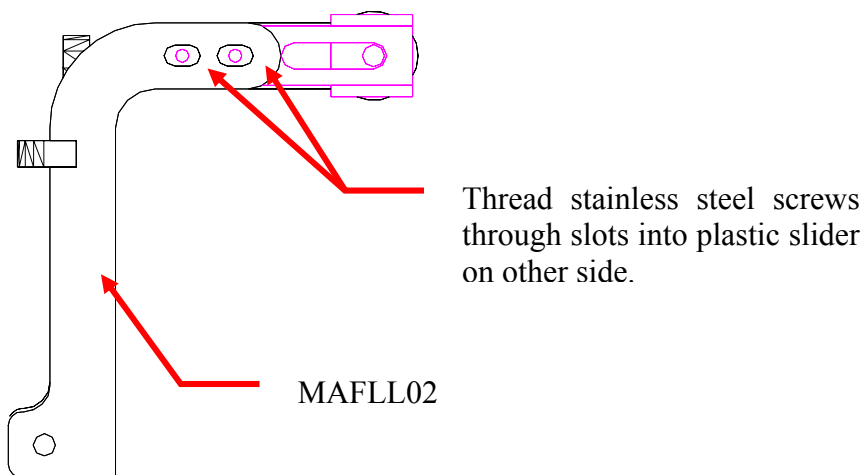

Figure 12. Attach the slider horn with the screws centered, or as right-most as possible in the slotted holes of the MAFLL02 (screws are not shown).
2. Attach the shoulder servo horn slider (sliding mechanism of the servo horn HAS-300 in **Figure 2**) to the left forearm link MAFLL02 with the two self-taping stainless steel screws WSS25-2 (**Figure 12**). Center the screws in the slotted holes or position them right-most for maximum adjustment on slider.